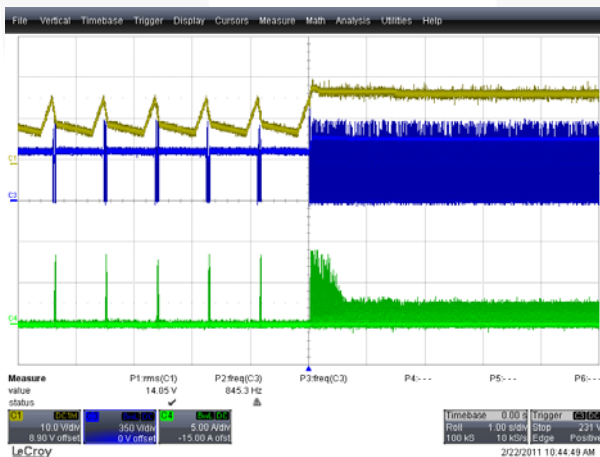
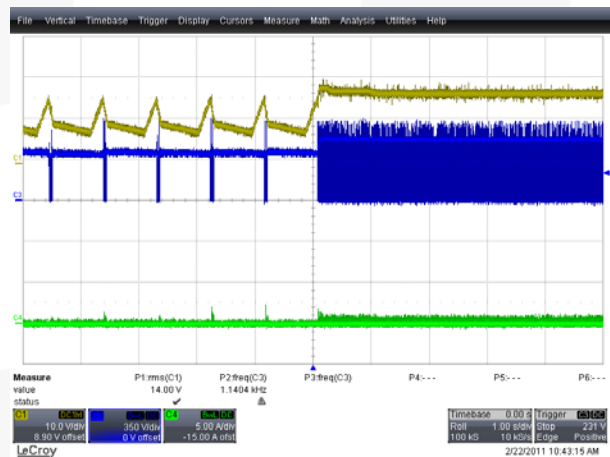

Figure 45. 90 V_{AC} / 60 Hz, CH1 (Yellow): $V_{CC(QR)}$, CH3 (Blue): $V_{DS(QR)}$, CH4 (Green): $I_{DS(QR)}$
Figure 46. 277 V_{AC} / 60 Hz, CH1 (Yellow): $V_{CC(QR)}$, CH3 (Blue): $V_{DS(QR)}$, CH4 (Green): $I_{DS(QR)}$
Figure 45 and Figure 46 show the V_{DS} and I_{DS} waveforms of the MOSFET (QR) when short circuits at output load were removed.